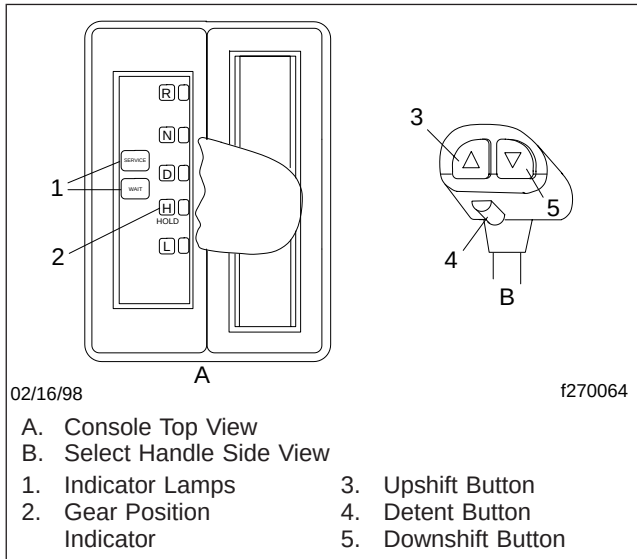

Fig. 8.5, Enhanced Driver Command Console (DCC)
- The DCC (**Fig. 8.5**) has indicators for reverse, neutral, and the three forward positions: drive, hold, and low. Service and wait lamps are also located on the console. The gear select handle contains upshift and downshift buttons and a gear select lever detent button.
2. Select either LO or HI reverse by depressing either the downshift or upshift button (Fig. 8.5) on the gear select handle (if equipped).
1. With the vehicle stopped, place the gear select lever in the "D" or "H" position to select a starting gear. See Fig. 8.5.
2. Select a starting gear with the upshift or downshift buttons on the gear select handle. See Fig. 8.5.